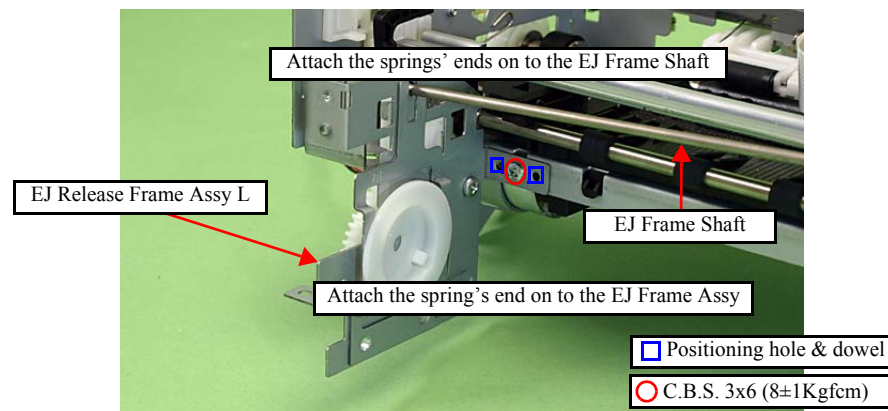

Figure 4-113. Removing the EJ Release Frame Assy L
- When installing the Main Frame, be careful not to let it hit the Base Frame. If the EJ Release Frame Assy L hits the Base Frame (see Fig. 4-113), the gear will come off, which may cause the operation defect.
- Align the dowels (x2) of the EJ Release Frame Assy L with the positioning holes (x2) of the Main Frame. (See Fig. 4-113.)